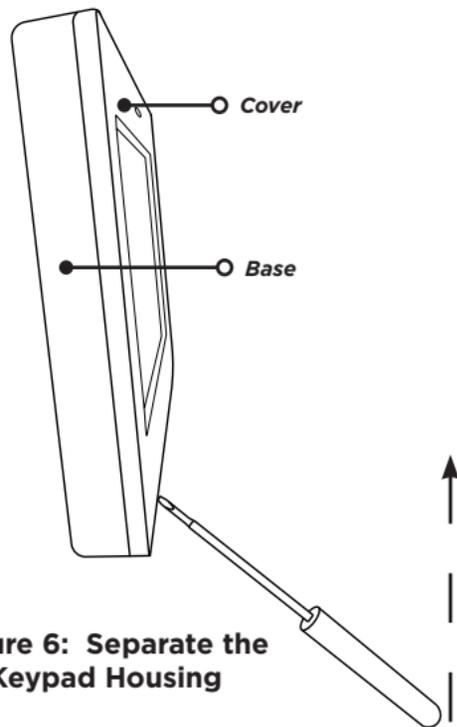

Figure 6: Separate the Keypad Housing
2. Separate the cover from the base and set the cover containing the keypad components aside. See Figure 6.